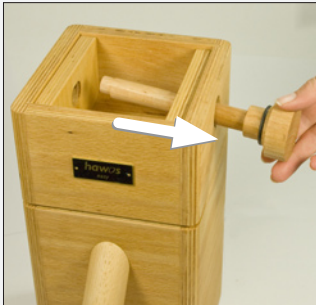

Figure 6
- Take out the funnel insert (figure 6)